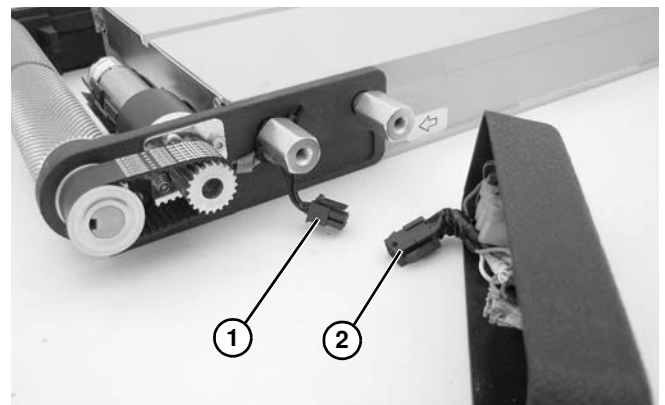

Figure 92
3. Unplug motor connector (**Figure 92, item 1**) from cover wiring connector (**Figure 92, item 2**).